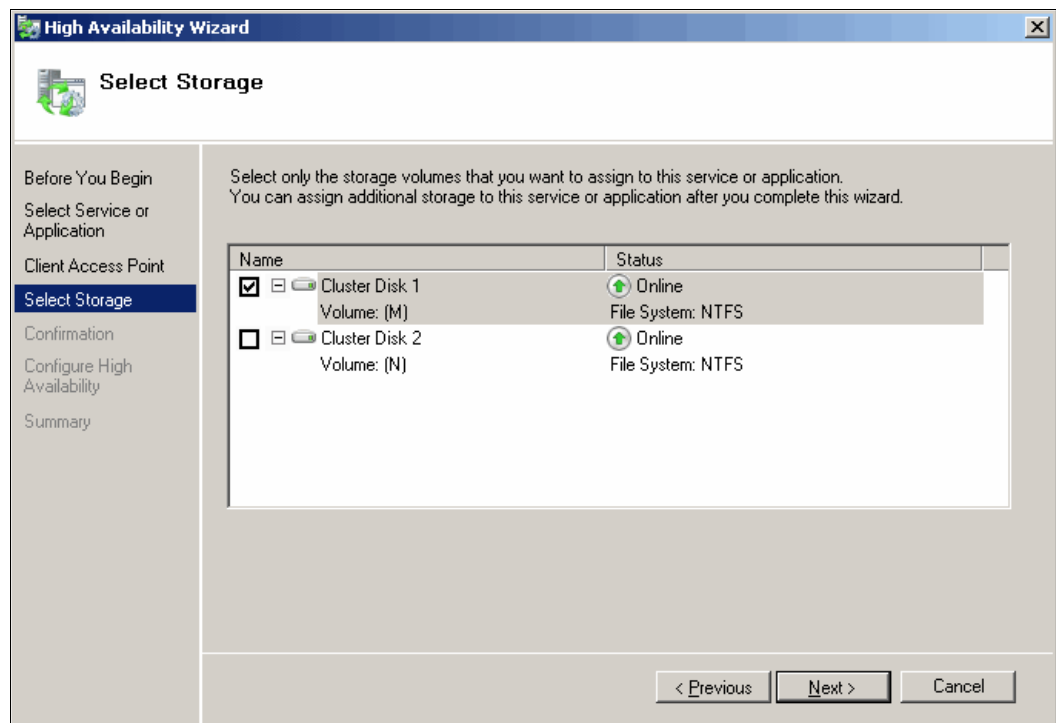

Figure 19-31 Select Storage Volume
9. Select the storage volume or volumes that the clustered file server should use as shown in Figure 19-31.